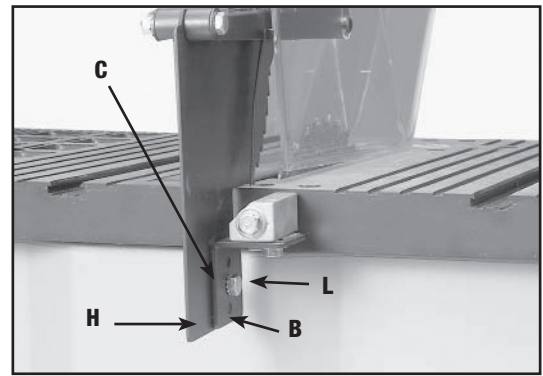
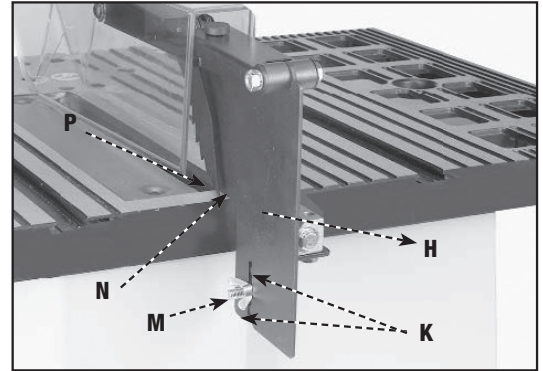

Fig. 14
Fig. 15
6. Attach the splitter (H) Fig. 14 to the splitter support bracket (B). Place a 1/4" external tooth lockwasher and an M6.4 flat washer on an M6x1x20mm hex head screw (L).
7. Insert the screw (L) Fig. 14 through the splitter support bracket (C) and the splitter (H). Place an M6.4 flat washer and a 1/4" external tooth lock washer on the screw (L). Thread an M6x1 wing nut (M) Fig. 15 on the screw (L) Fig. 15.
**NOTE: Before tightening the wing nut (M) Fig. 15, make certain a gap of at least 1/8" is between the bottom edge of the splitter (N) and the top surface of the table (P) and that the protrusions (K) are inside the slot of the splitter assembly (H).**